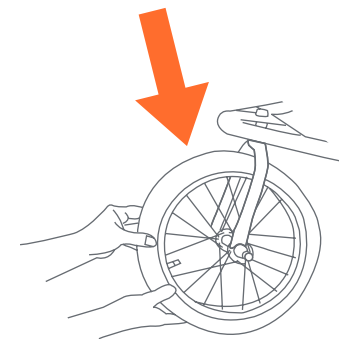

Fig. 20
20) • Lift front end of the stroller up and pull down on wheel to ensure its attached (Fig. 20). The wheel should not be loose or come off.